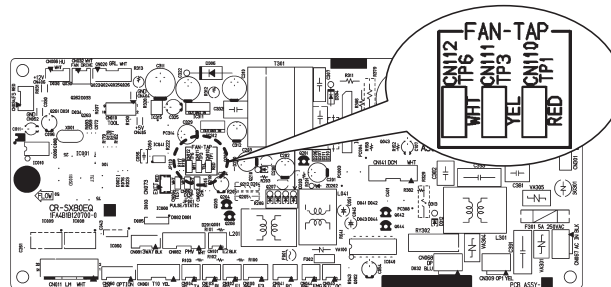

Fig. 2-5
- ① Open the electrical component box cover, then check the indoor unit control PCB. (Fig. 2-5)
- ② Connect the jumper connector (2P: yellow) which was supplied with the accessory to the correct connector pin on the indoor unit control PCB according to the setting number which was confirmed in Table for DC Fan Motor Tap Settings.